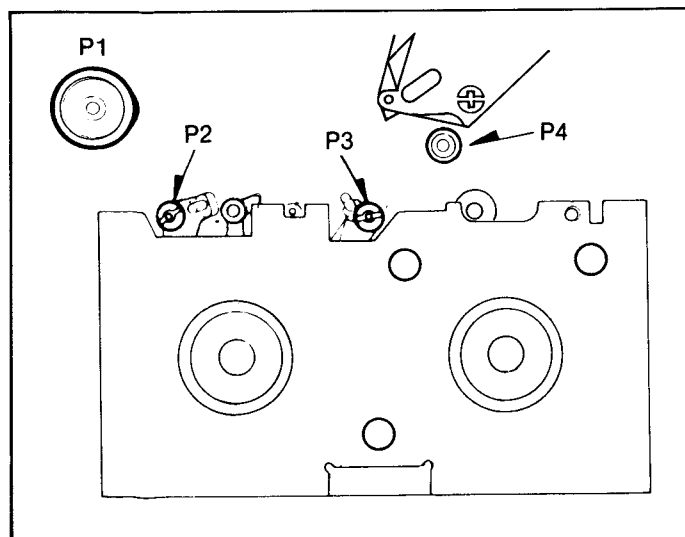

Fig. 13 Height Adjustment of Tape Guide Posts-(1)
3. If the scope display is as follows, adjust the height of P2 shown in Fig. 13.
4. If the scope display is as follows, adjust the height of P3 shown in Fig. 13.